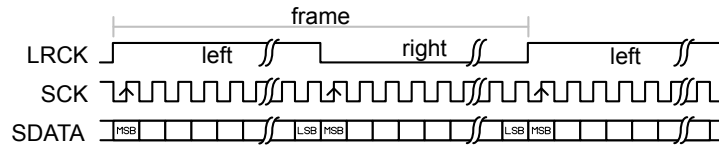

Figure 65: Aligned format. Identical sample width and half-frame width. Left sample on high level of LRCK
- When using Aligned format, the first bit in a half-frame gets sampled on the first rising edge of SCK following a LRCK edge, as illustrated in Figure 65: Aligned format. Identical sample width and half-frame width. Left sample on high level of LRCK on page 233. The left sample is transferred during the high half period of LRCK.